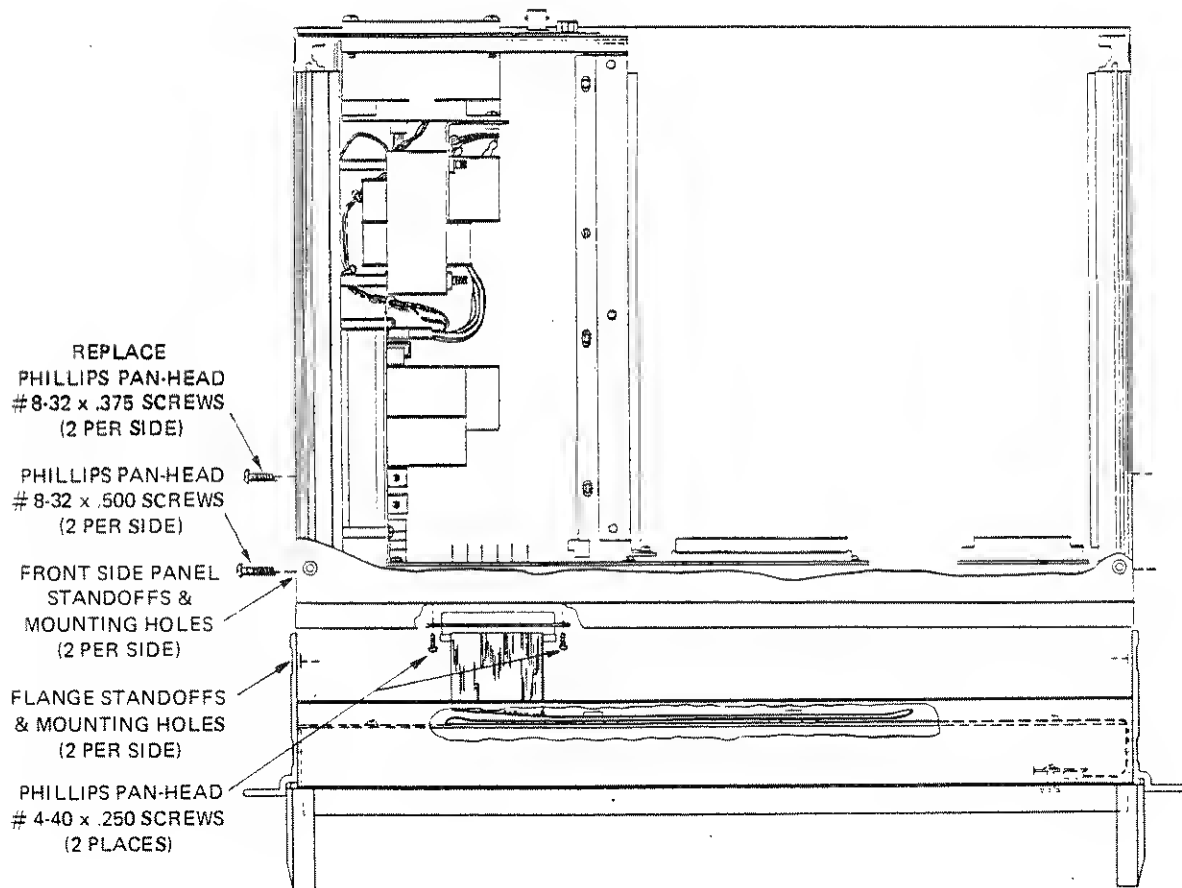

Figure 2-12 - Option 90 to 1250 Chassis Installation
- c. Refer to Figure 2-12. Secure the Option 90 cable connector into its receptacle on the front panel of the 1250 chassis with the two supplied #4-40 x 1/4 screws and place the power switch on the 1250 chassis in the OFF position